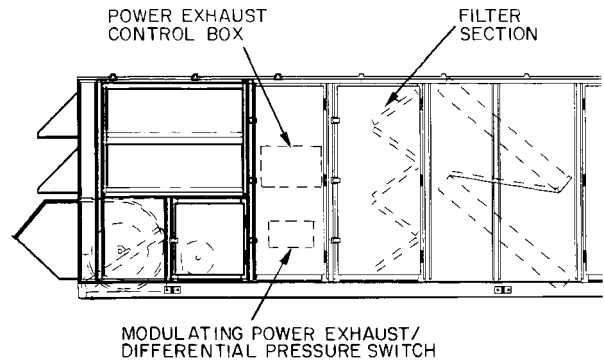

Fig. 30 — Modulating Power Exhaust Differential Pressure Switch
48FJ.FK and 50FJK.FJY.FKX.FKY Units — These units use a differential pressure switch (DPS) to control the actuator on the modulating discharge damper in exhaust fan no. 1. The building pressure (BP) DPS is mounted below the auxiliary control box next to the access door labeled FILTER SECTION. See Fig. 30. Use a nominal 3/8-in. plastic tubing.
48FP and 50FPX.FPY Units — These units use a pressure transducer for sensing building pressure. The BP transducer is mounted below the unit auxiliary control box next to the access door labeled FILTER SECTION. See Fig. 30. Use a nominal 1/4-in. plastic tubing.